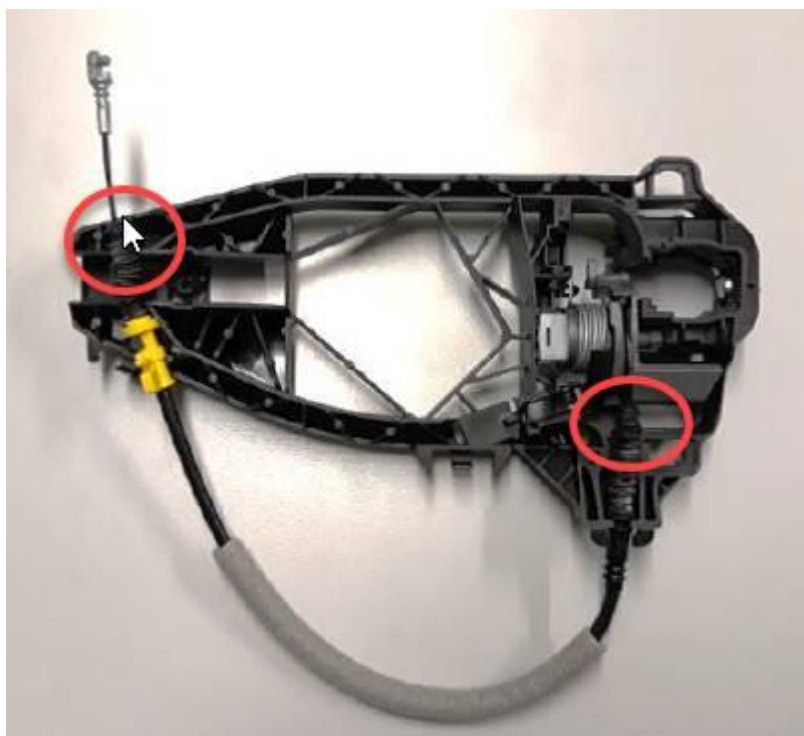

Figure 1. Remove Bowden cable.
1. Gain access to the Bowden cable for the affected door and remove it. It is possible to have water entry on both ends of the cable as shown in Figure 1.